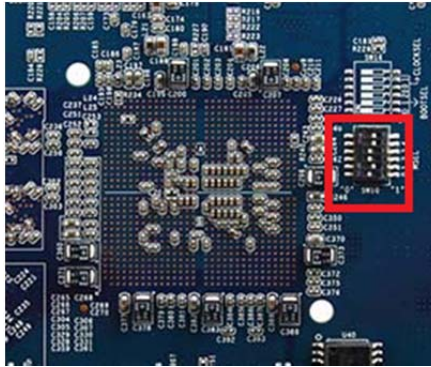

Fig. 45: MSEL switches on the bottom layer of DE1-soc.
1. Check DE1-SoC switches and set as follows (Fig. 45):